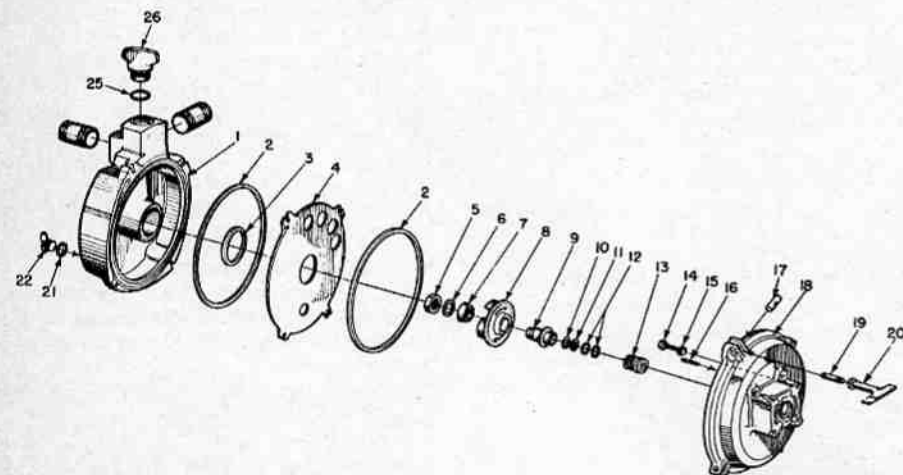

Fig. HL11—Exploded view of trash pump. End housing and impeller must be removed from impeller housing to allow housing to be unbolted from engine.
**TRASH PUMP.** The trash pump (Fig. HL11) impeller (8) is mounted on tapered bushings so that if a solid object lodges in pump, the shaft can spin in impeller.